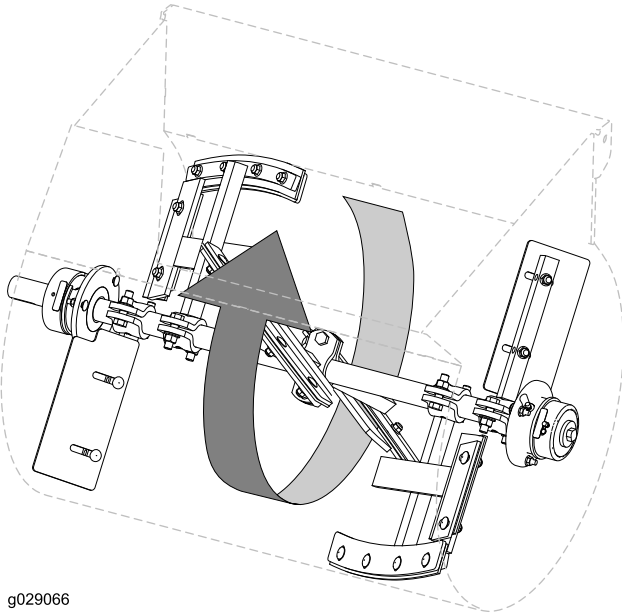

Figure 63
1. Rotate a paddle from the left row of paddles around the drum and locate at the interior of the drum the smallest distance between the drum and the wiper of the paddle (Figure 63).